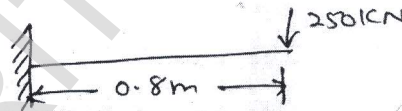

Fig. Q7 (b)
b. A Cantilever beam subjected to point load of 250 kN as shown in Fig. Q7 (b). Determine deflection at tip and support reactions.